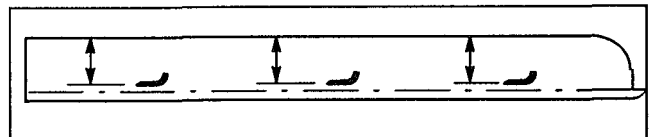

Figure 28
2. Rotate blade until the ends face forward and backward. Measure from inside of cutting unit to cutting edge at front of blade (Fig. 28), and remember this dimension.